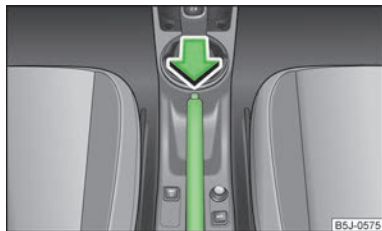

Fig. 80
- » Pull the handbrake lever up slightly and **at the same time** push in the locking button » Fig. 80.